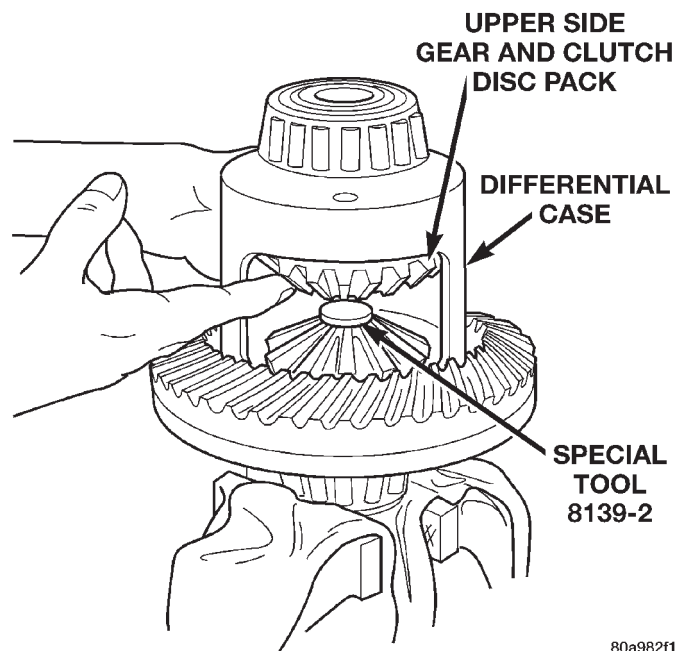

Fig. 66 Upper Side Gear & Clutch Disc Pack Installation
(4) Position the differential case on Side Gear Holding Tool 8136.
(5) Install lubricated Step Plate 8139-2 in lower side gear (Fig. 66).
(6) Install the upper side gear and clutch disc pack (Fig. 66).
(7) Hold assembly in position. Insert Threaded Adapter 8139-1 into top side gear.
(8) Insert Forcing Screw C-4487-2.
(9) Tighten forcing screw tool to slightly compress clutch discs.
(10) Place pinion gears in position in side gears and verify that the pinion mate shaft holes are aligned.
(11) Rotate case with Turning Bar C-4487-4 until the pinion mate shaft holes in pinion gears align with holes in case. It may be necessary to slightly tighten the forcing screw in order to install the pinion gears.
(12) Tighten forcing screw to 122 N·m (90 ft. lbs.) maximum to compress the Belleville springs.
(13) Lubricate and install thrust washers behind pinion gears and align washers with a small screw driver. Insert mate shaft into each pinion gear to verify alignment.
(14) Remove Forcing Screw C-4487-2, Step Plate 8139-2, and Threaded Adapter 8139-1.
(15) Install pinion gear mate shaft and align holes in shaft and case.
(16) Install the pinion mate shaft lock screw finger tight to hold shaft during differential installation.